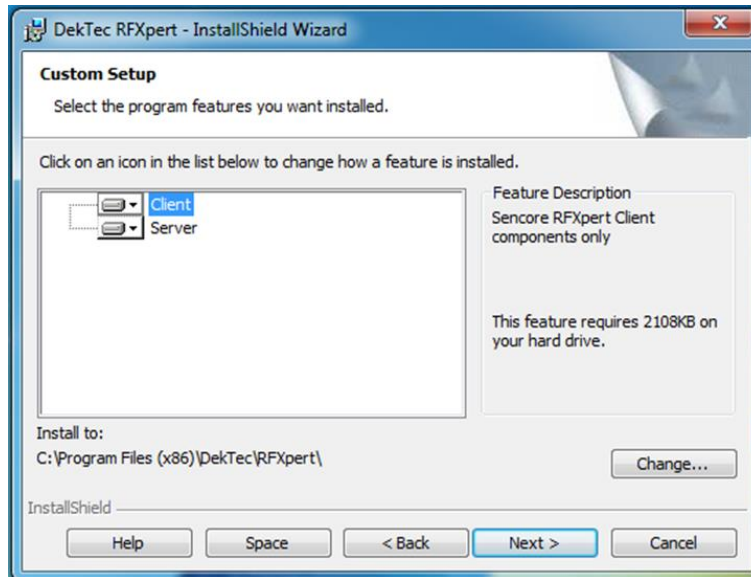

Figure 2. RFXpert Setup Type
4. The remainder of the RFXpert installation is self-explanatory. However, take note of the setup type screen (Figure 2). Selecting either the client or server icon presents options for installation of each. RFXpert is a client/server based architecture and must be installed accordingly. It is recommended to leave this option as is, which will install both the server and client.